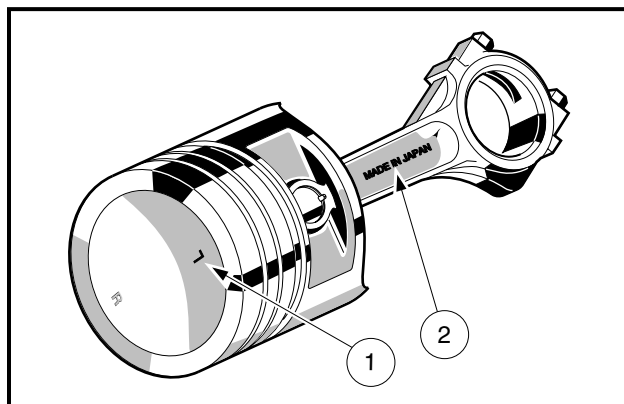
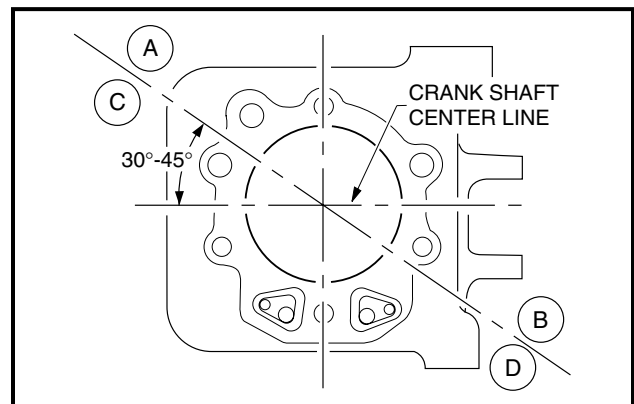

Figure 3-89 Piston Head and Connecting Rod Alignment
Figure 3-90 Piston Ring Gap Alignment
3. If the link rod was removed from the PTO side of the crankshaft, support the crankweb as shown, slide the link rod onto the crankshaft, and install the key. Press the spur gear and helical gear onto the crankshaft (**Figure 3-89, Page 3-41** and **Figure 3-90, Page 3-41**). **See following CAUTION and NOTE.**
NOTE: Make sure the chamfered inside diameters of the spur gear and helical gear are oriented downward on the crankshaft as shown (**Figure 3-89, Page 3-41**).